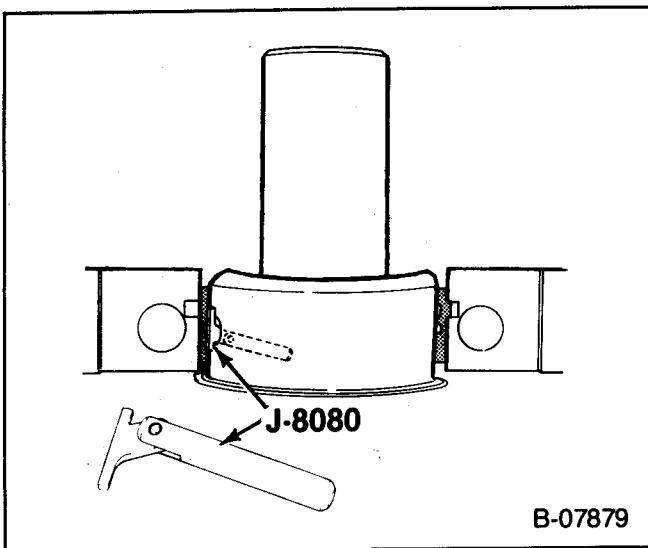

Figure 33—Removing The Main Bearing
Remove or Disconnect (Figure 33)
- Insert J-8080 into the crankshaft oil hole (figure 33).
- Insert tool J-8080 into a crankshaft main bearing oil hole (figure 33).